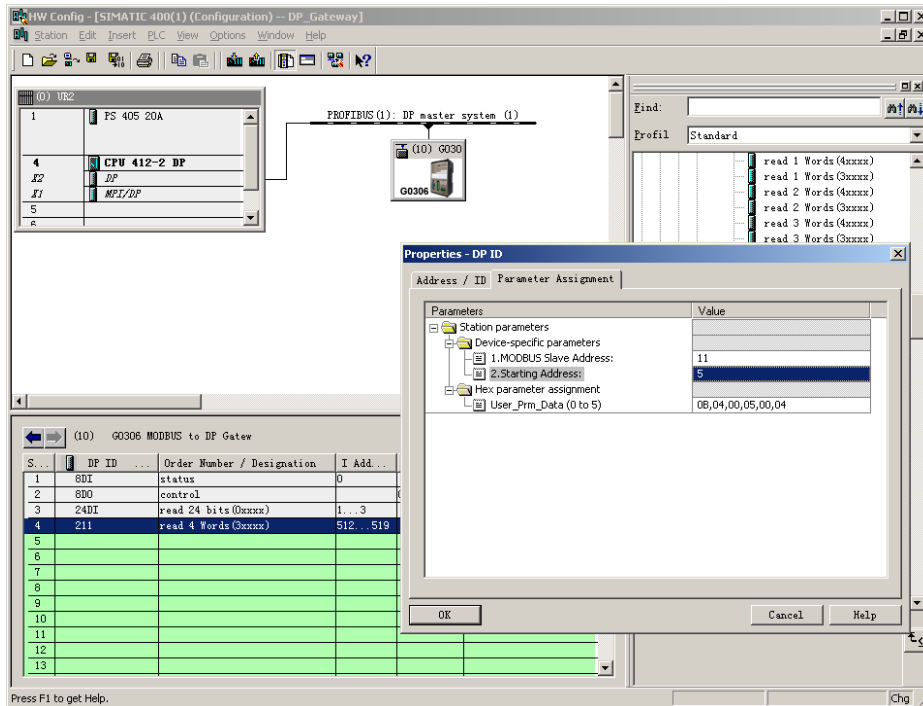

Figure 20 Configuration of “read 4 Words(3xxxx)”Module User Parameter
b) Configuration of “read 4 Words(3xxxx)”module user parameter, as shown in Figure 20
“1. MODBUS Slave Address:” ⇒ type MODBUS slave address 11, as shown in Figure 20
“2. Starting Address:” ⇒ type will-read register 3xxxx’s starting address 30006 and set address as 5 ⇒ “OK”, shown in Figure 20.